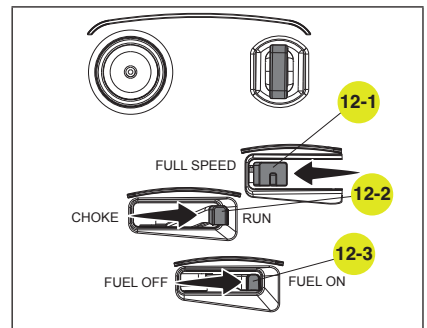

Figure 12
3. To start a warm engine: (Fig. 12).